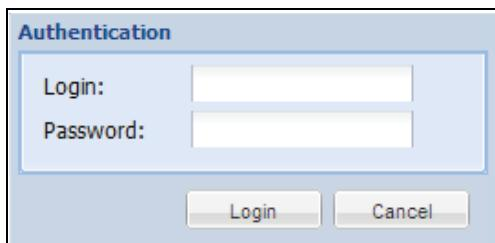

Figure 96. Login Authentication
5. Enter a valid user name and password in the authentication dialog box (see Figure 96). Click **Login** to continue or **Cancel** to exit.